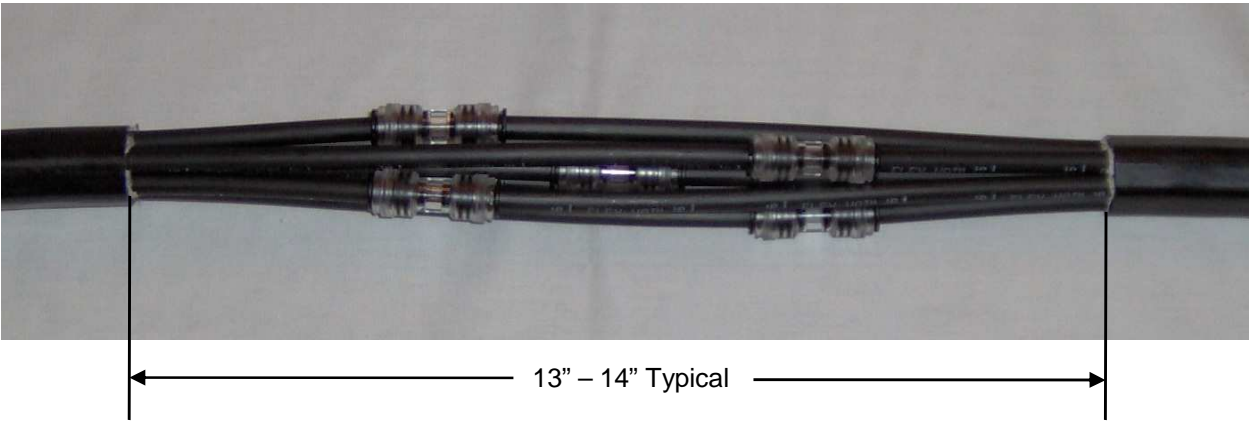

Figure 30
15.17 After all tubes are coupled, make final adjustments to tube and tube cable positions and secure in place to complete the installation. **See Fig. 30 for an example.**
16.17 Repeat this procedure for Outer Ring Tubes 1, 3, 5, 7, 9, and 11 and for Outer Ring Tubes 2, 4, 6, 8, 10, and 12. **See Fig. 30.**